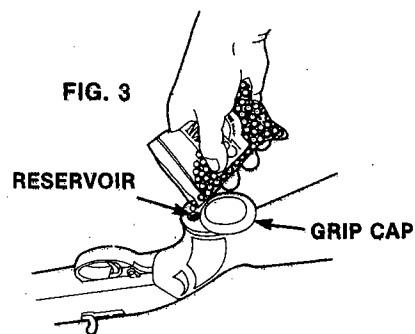

FIG. 3
- Slide grip cap toward the rear of the rifle. (Fig. 3)